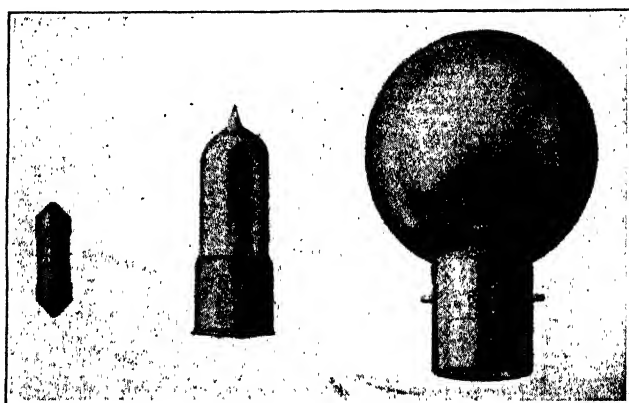

Fig. 18. Bosch Type Automobile Incandescent Bulbs
*Bosch Type.* Fig. 18 shows the Bosch lamps, which are of special form. The headlight lamp at the right is of 25 c.p. and has the filament stretched horizontally across wire supports, while the side lamps of 8 c.p. have a loop of corrugated wire, and the tail lamp, of tubular form, a single filament running straight across it. Tail lamps are usually in series with the instrument lamp so that failure of the latter to light also indicates a failure of the tail lamp.